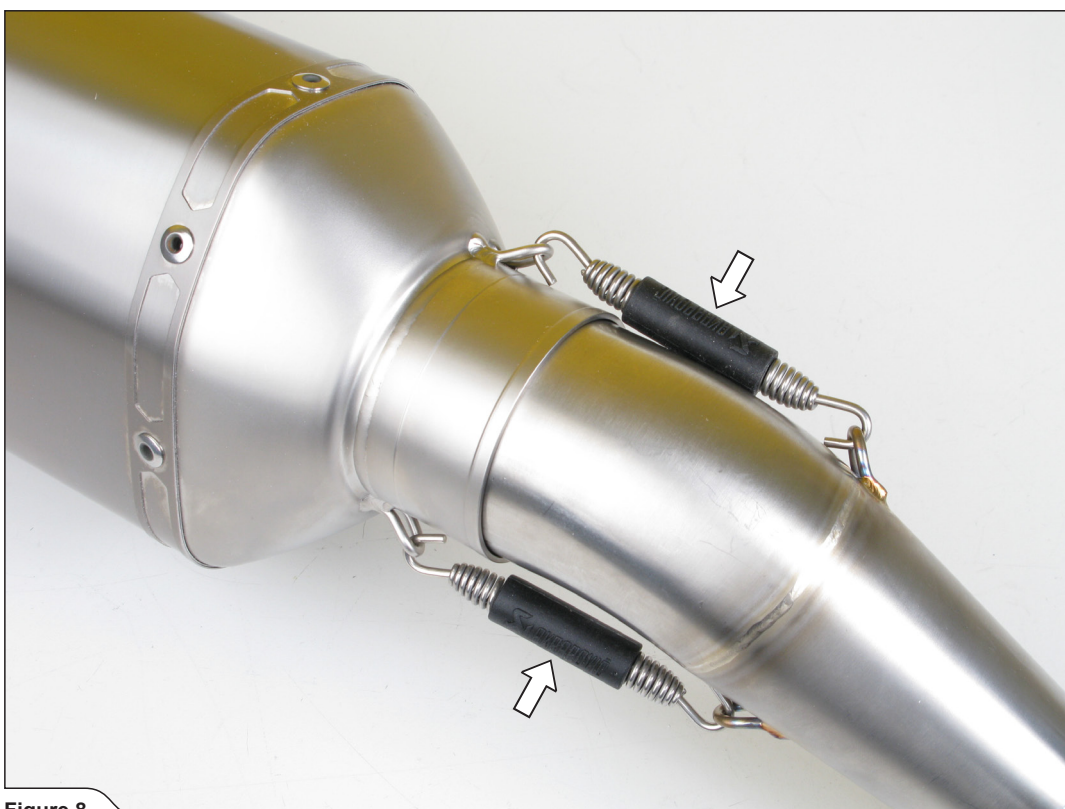

Figure 8
- ! **IMPORTANT: make sure, that springs pull the link pipes all the way into the mufflers' sleeves – use rubber mallet if necessary to tap the connections into place (Figure 8)!**